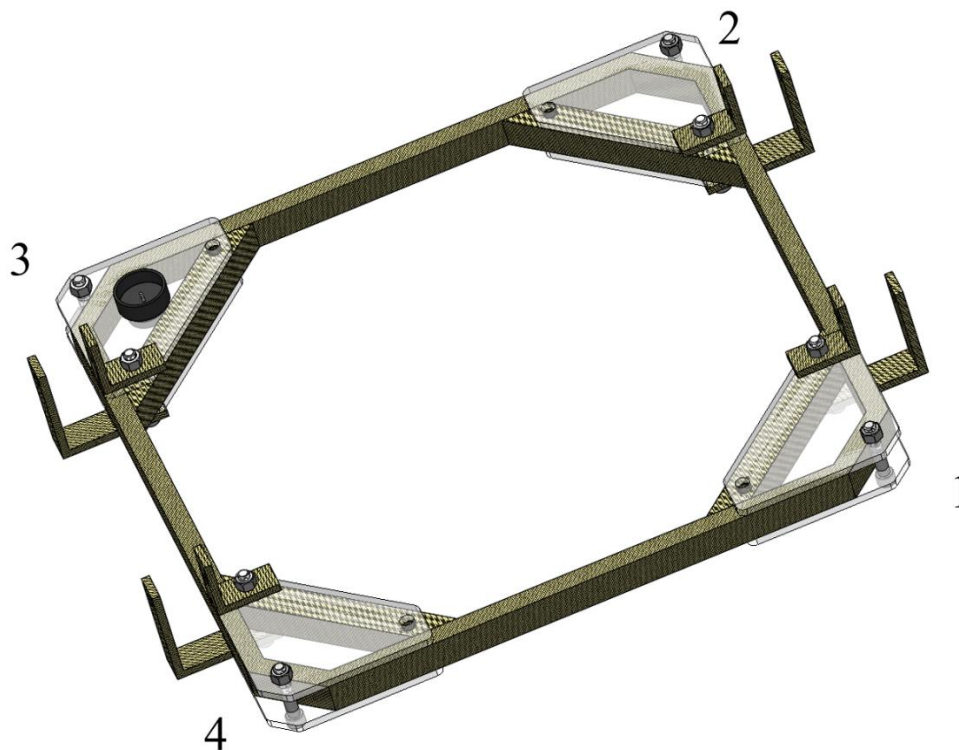

Figure 6.3
10. Epoxy the Outer Angle Brackets (THOA001) and Inner Angle Brackets (THOA002) in the configuration shown in Figure 6.3. The holes in the Brackets should line up to the holes through the acrylic sheets and braces. One of the Inner Angle Bracket faces will be epoxied to the Corner Support for Plug. Each corner should have one Bracket Pair epoxied to it as shown in Figure 6.3. Immediately after putting the epoxied angles into place, bolt through the Angle Brackets, Acrylic Supports, and Braces using four 2.5" 3/8-16 bolts (PN OUTS003) and four 3/8-16 nuts (PN OUTS004). Ensure that the bolt heads are on the same side as the bolt heads already in the assembly. See Figure 6.3 for reference. The epoxy should still be wet when these are bolted in.